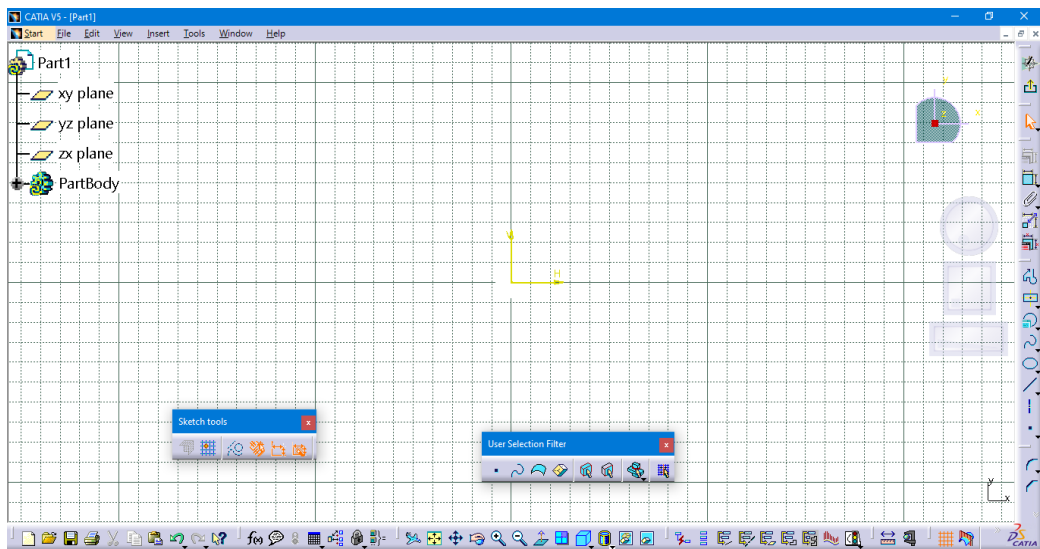

Figure 2-62 The *Sketcher* workbench screen
- Choose the **Sketch** tool from the **Sketcher** toolbar and then select the **yz plane** from the Specification tree as the sketching plane; the **Sketcher** workbench screen is displayed, as shown in Figure 2-62.